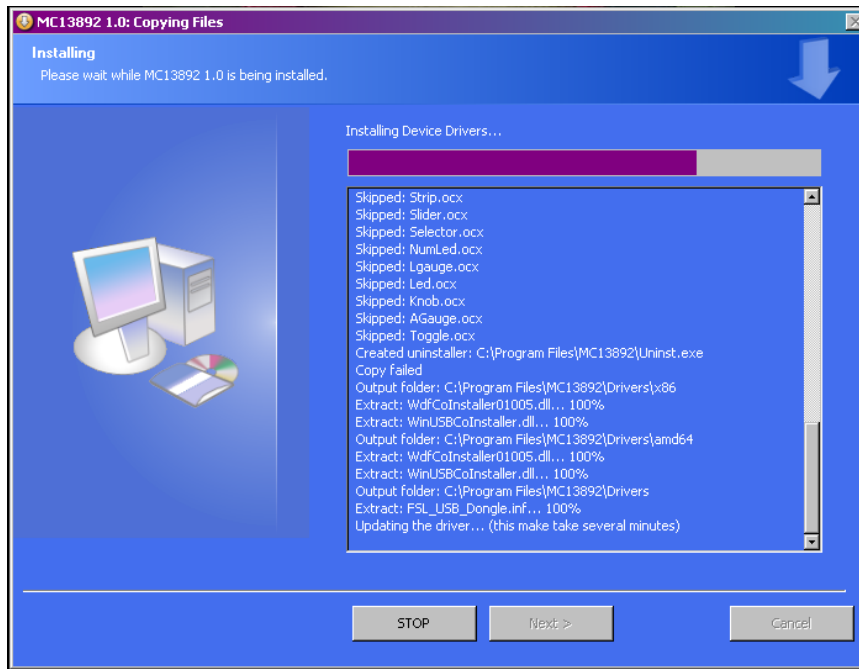

Figure 16. Software Install Window
6. Once the destination folder is selected, click "Install". The installation of the necessary drivers begins (Figure 16).